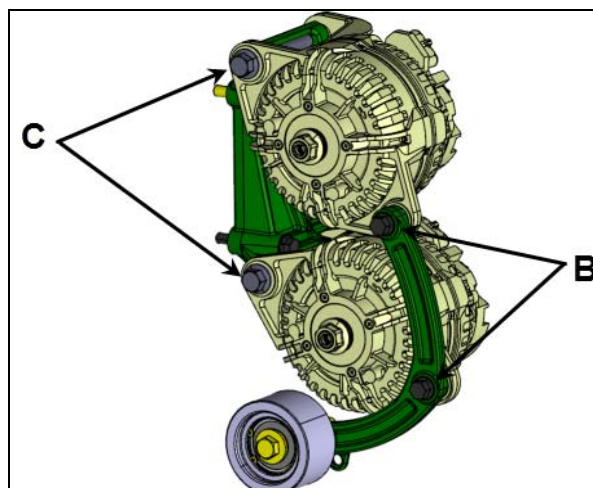

FIGURE 22
11. In order to assure proper installation, it is important to tighten the alternator mounting bolts in the following proper sequence. Use Loctite 243 blue on threads (**FIGURE 22**).